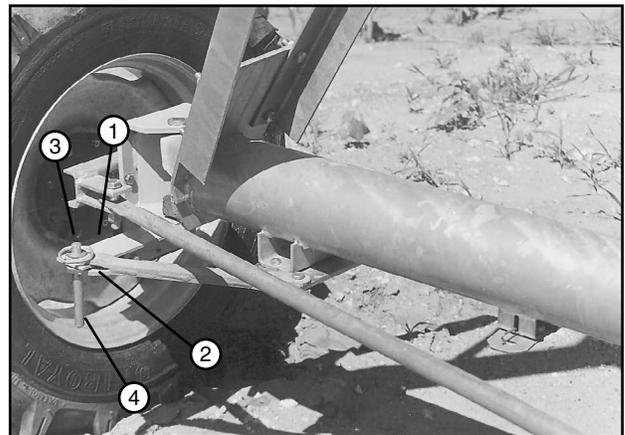

Figure 51-3 1. Steering Arm 2. Tow Link Bar Yoke 3. Torque Pin 4. Lynch Pin
20. Position each steering arm in tow link bar yoke, align holes, then attach each steering arm to tow link bar with torque pin and secure with lynch pin. It may be necessary to move the tongue for proper alignment of the holes. See Figure 51-3.